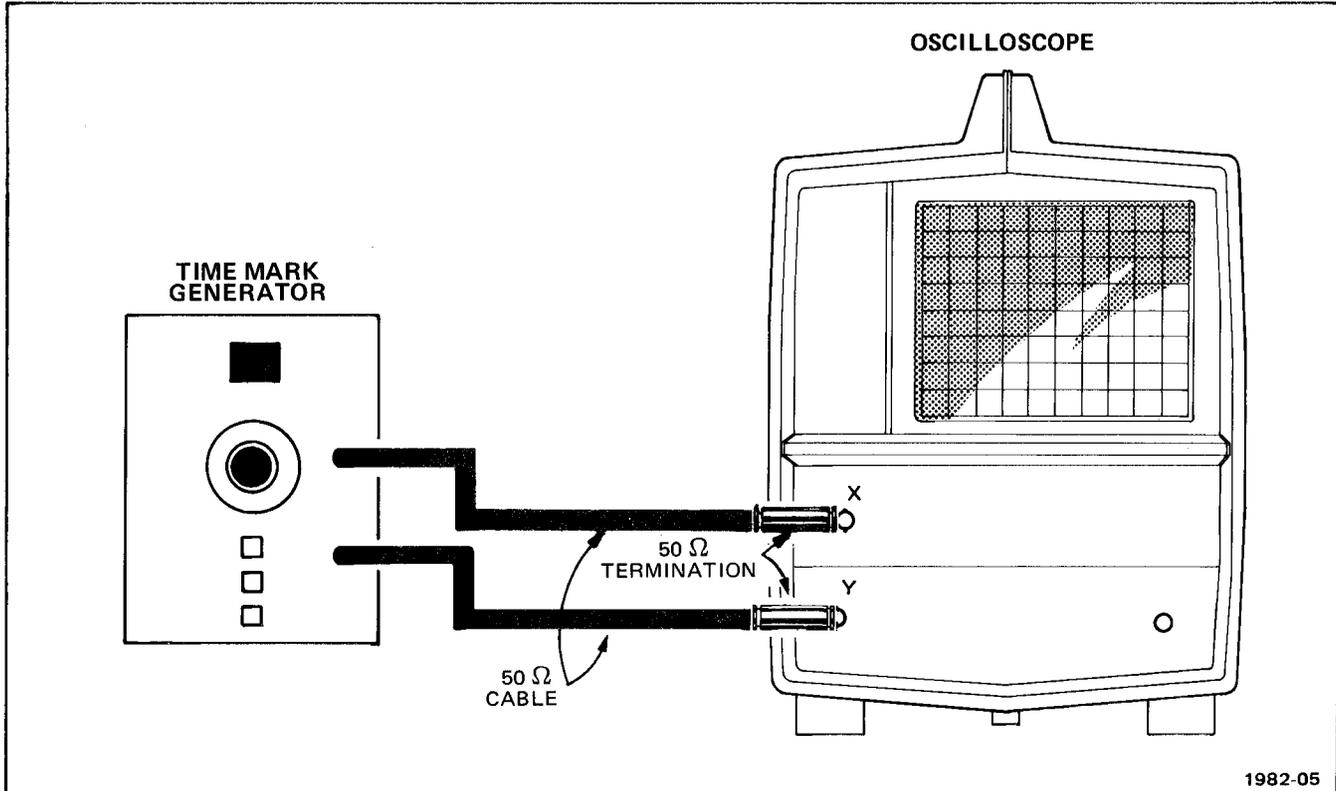

Fig. 3-5. Timing accuracy check test setup.
- a. Connect test setup as shown in Fig. 3-5.